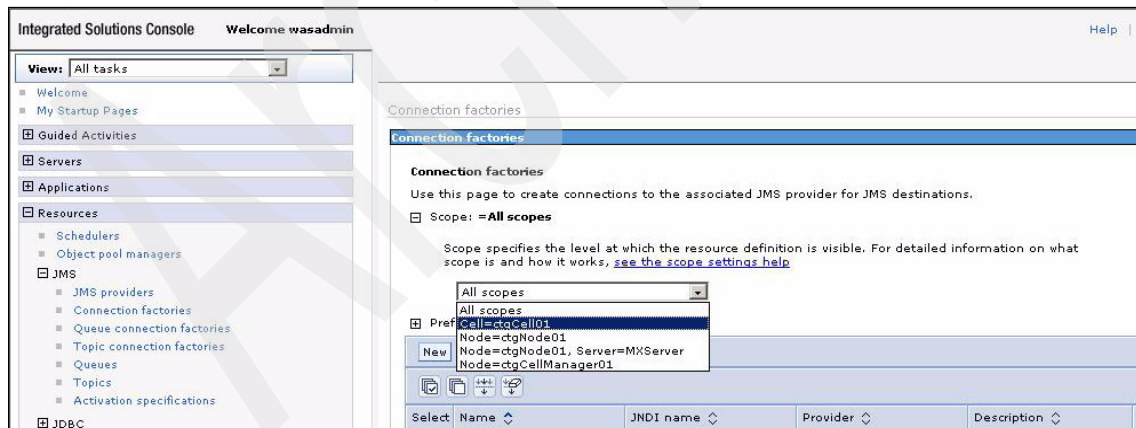

Figure A-37 Scope list
2. From the Scope drop-down list, select **Cell=ctgCell01** (see Figure A-37).